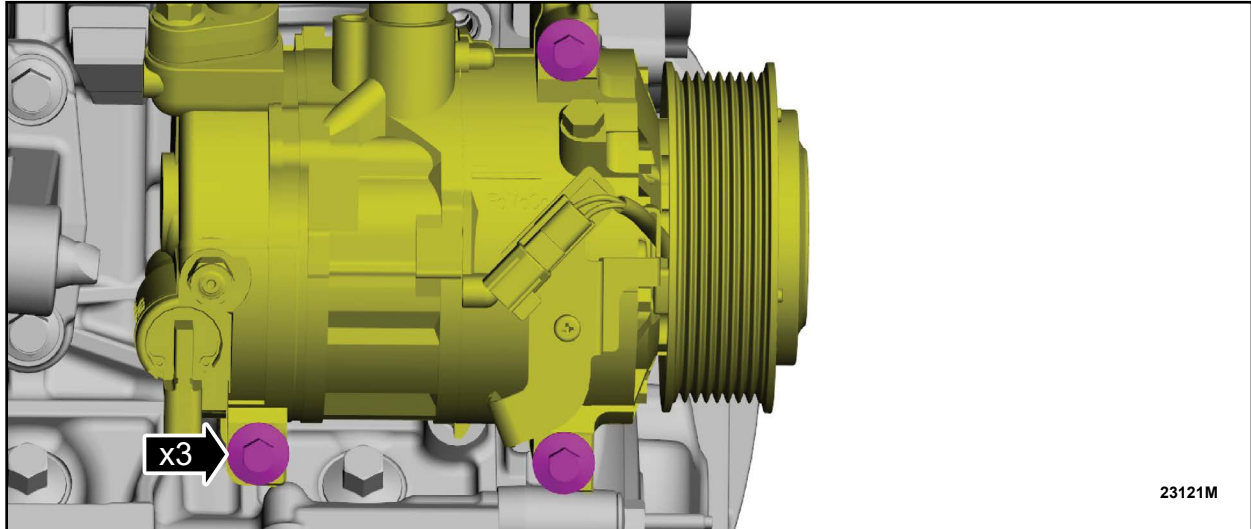

FIGURE 21
35. Position the A/C compressor and install the bolts. See Figure 21.